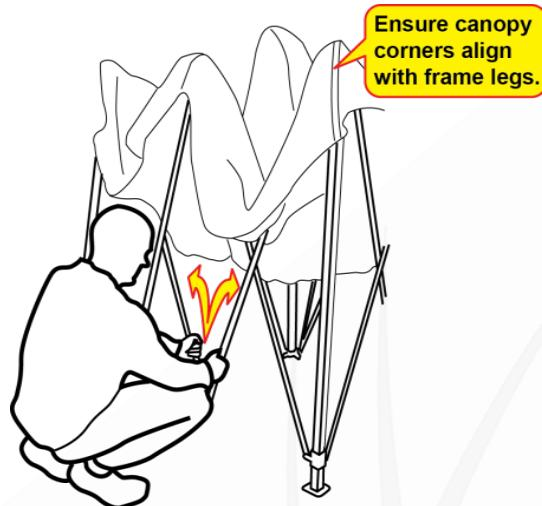
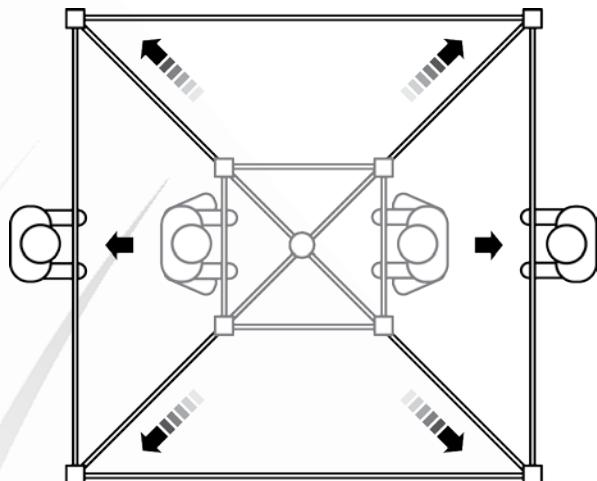

Figure 3 - Hold Frame to Expand
Figure 4 - Expanding the Frame
4. **⚠ This step requires two persons.** On opposite sides of the gazebo, grab the middle section of the gazebo frame in both hands as shown in Figure 3. Simultaneously lift the sections of frame up and slowly move backwards, allowing the frame to expand to its full size as shown in Figure 4.